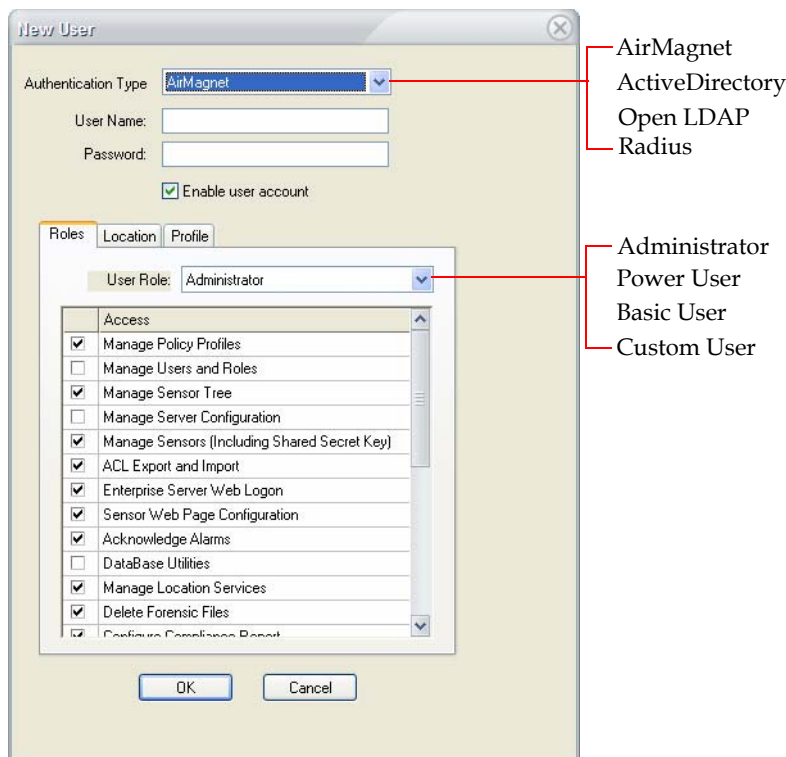

Figure 4-32: Using AirMagnet for user authentication
- 2) Click  (New User). The New User screen appears. See Figure 4-32.